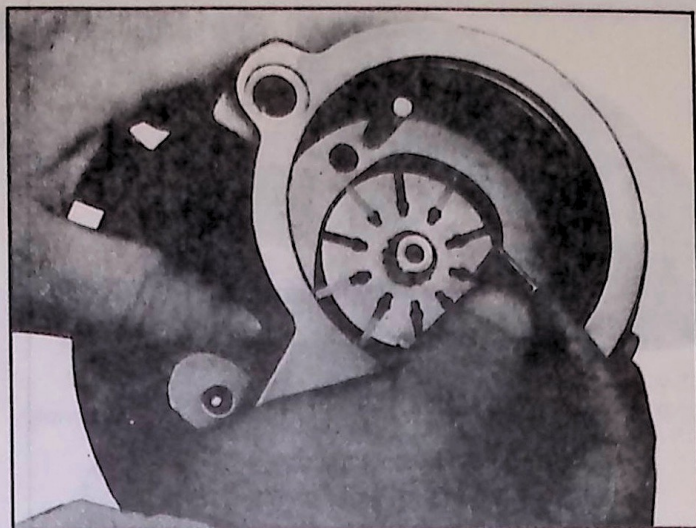

Fig. 26—Installing Vanes
8. Install the vanes into the rotor slots with the radius edge towards the pump ring and the square edge towards the rotor as shown in Figures 26 and 27.